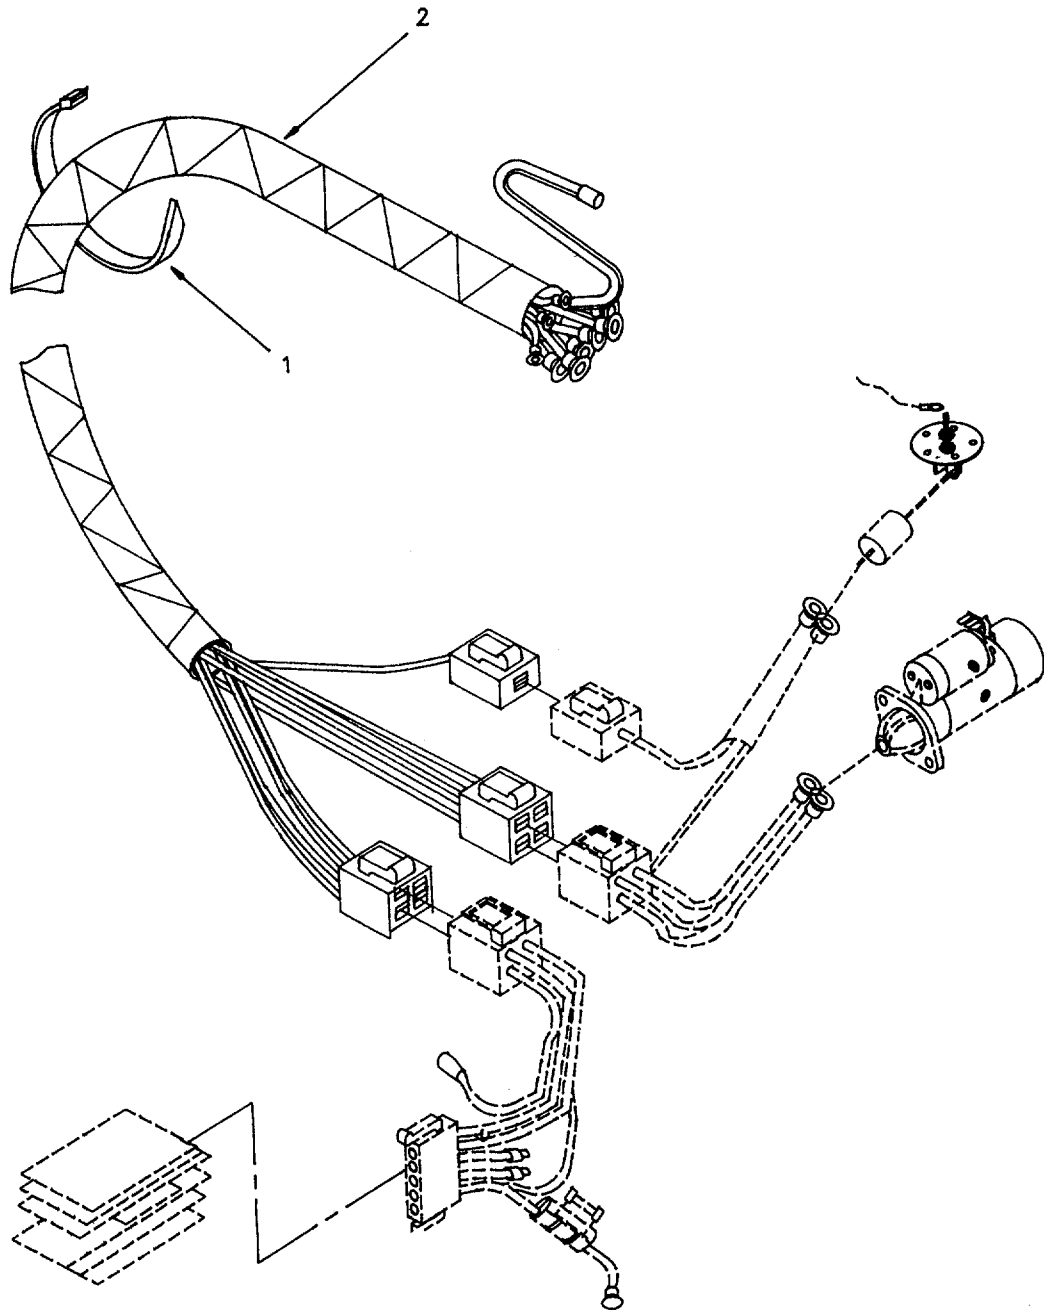

Figure 4-15. Wire Harness.
- (1) Remove tiedown straps (1, Figure 4-15).
- (2) Tag and disconnect connectors and terminal lugs as necessary.
- (3) Remove wire harness (2).